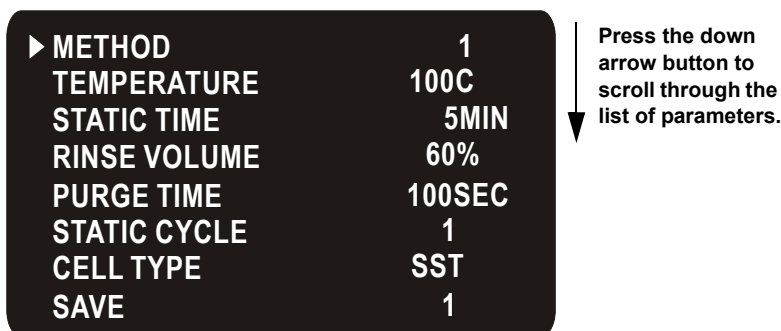

Figure 3-18. Method Editor Screen (All Parameters Shown)
2. Move the cursor to **METHOD EDITOR** and press **ENTER**. The **METHOD EDITOR** screen appears (see Figure 3-18). All parameters do not fit on one screen. To view additional parameters, press the down arrow button.